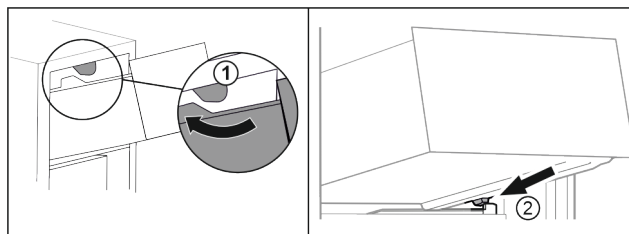

Fig. 94
- Guide drawer around the upper stoppers. *Fig. 94 (1)*
- Place drawer at an angle behind the lower stoppers onto moulded rib. *Fig. 94 (2)*